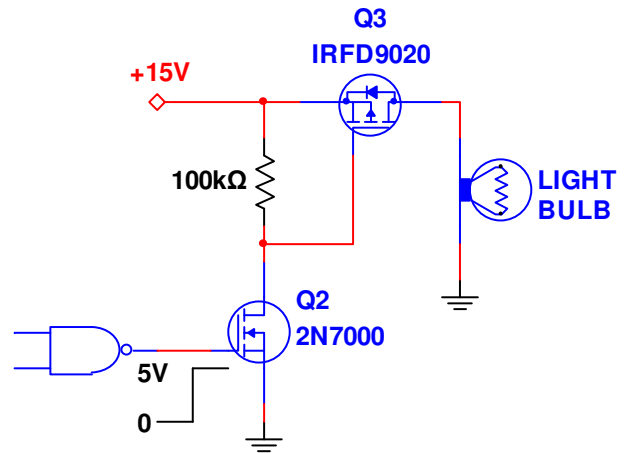

Fig. 6
6) Power switching often uses a high-side MOSFET switch, as shown in Fig. 6. A 5V CMOS NAND gate provides the control signal. Q2 is the logic level shifter, and Q3 is the high-side switch. The load is a light bulb rated at 15V @ 12W.